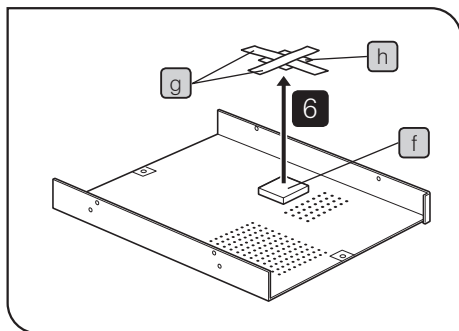

Fig. 5
- 6 A thermal conduction sheet **f** is attached on the back of the top cover. Remove the tapes **g** and the protective sheet **h** carefully without displacing the thermal conductive sheet (Fig. 5).